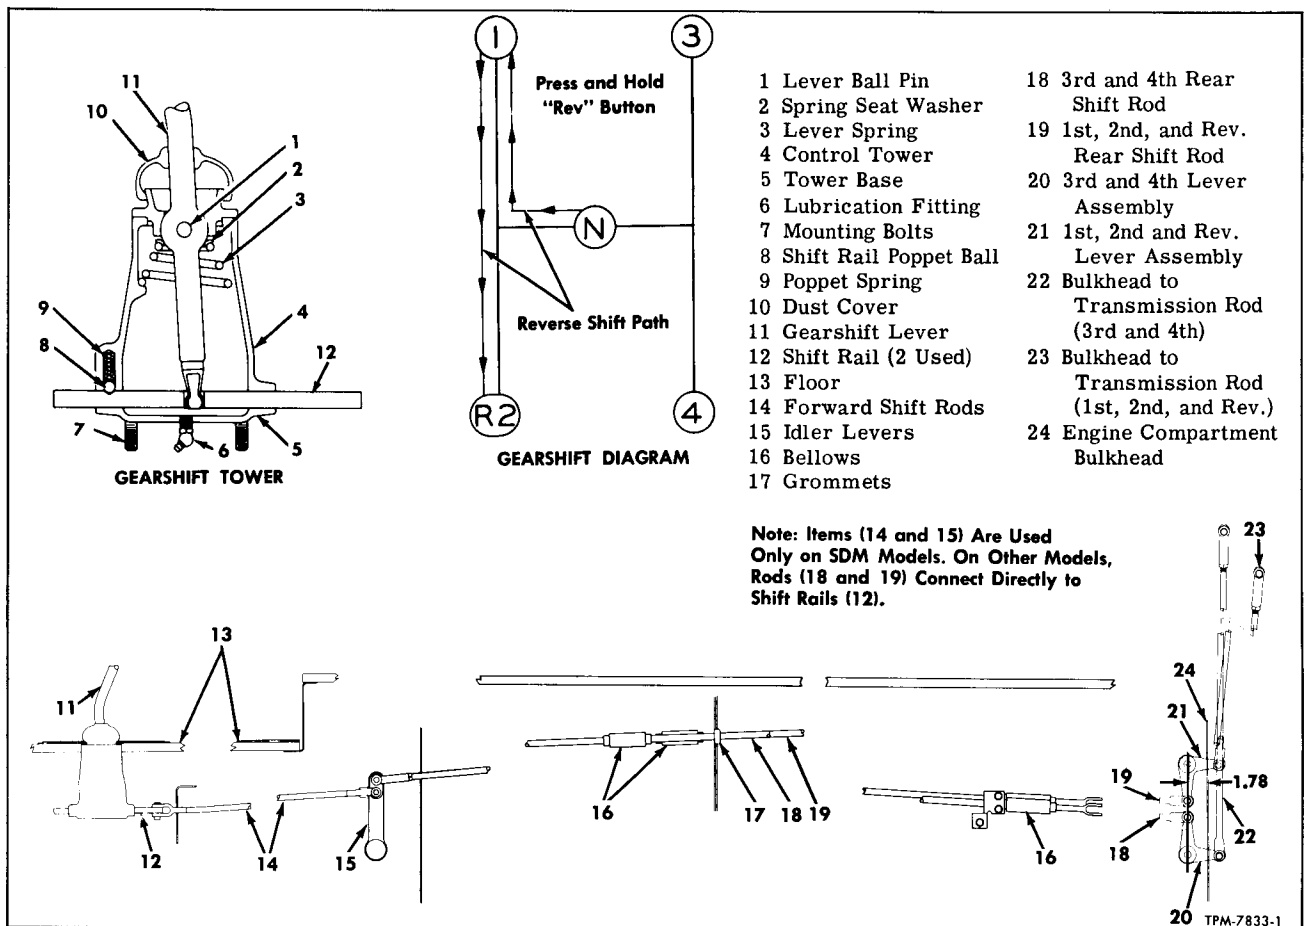
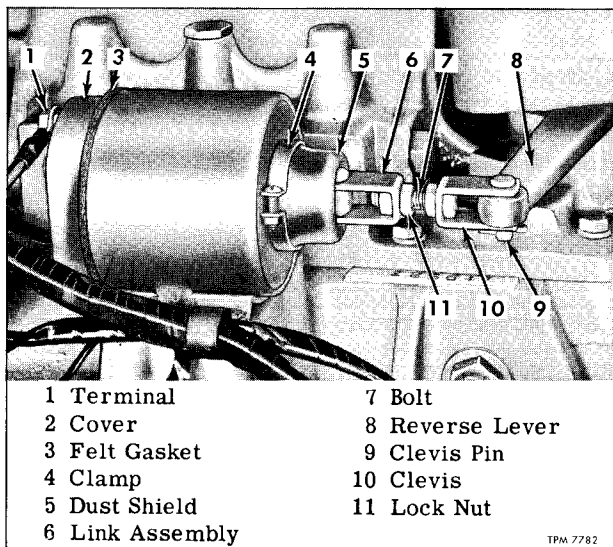
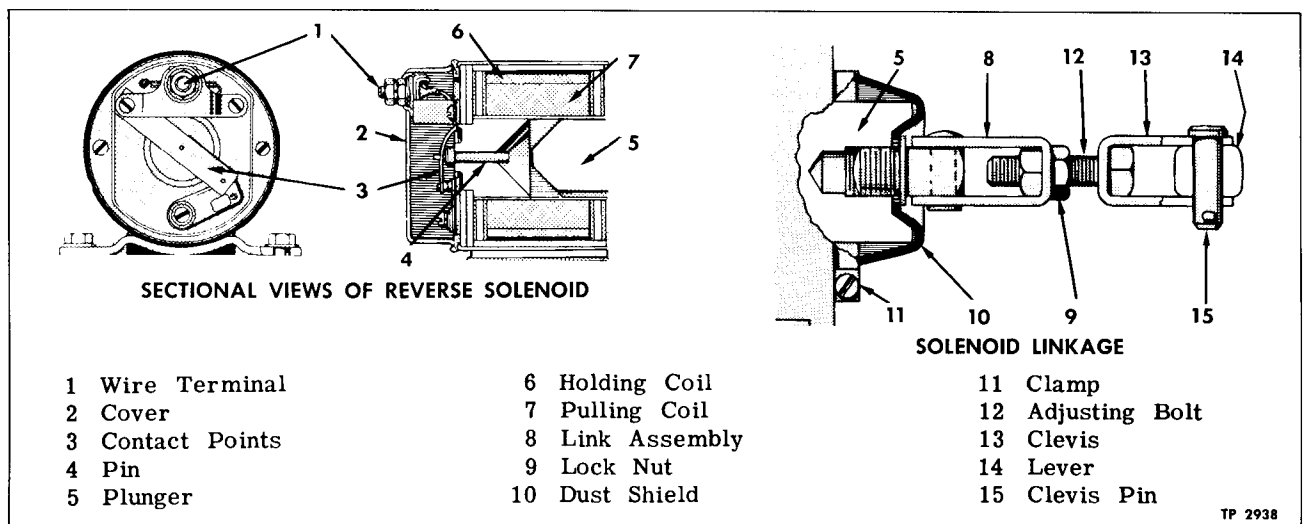

Figure 4—Transmission Controls
Figure 6—Typical Reverse Solenoid and Linkage
Figure 7—Reverse Solenoid Adjustment
The transmission gears are shifted manually through use of gearshift lever located at right of driver's seat and connected to levers on transmission by rods and bell cranks (figs. 4 and 5).
Reverse solenoid and lever (fig. 6) move shaft (4) endwise to engage inner finger (12) with notch in fork (13) when shifting into reverse. Spring (11)
Selection of transmission gear is made by conventional shifting lever. Gearshift lever is mounted in a tower attached under floor near driver's seat. Two shift rails in base of gearshift lever tower are connected with control rods which are shown in figure 4. Shift rods are connected to bellcrank levers at engine compartment bulkhead. Shift rods have adjustable clevises at forward ends. Two rods in engine compartment connect bellcrank
Reverse solenoid is mounted on transmission and connected to lever (fig. 6) which moves 1st, 2nd, and reverse shaft endwise. Solenoid is energized by a button type switch at panel at left of driver which operates relay located in electrical compartment at R.H. rear corner of coach. Relay completes circuit to the reverse solenoid. When solenoid is energized, solenoid plunger which is linked to reverse lever (8, fig. 6) pulls on reverse lever and forces shift finger shaft endwise to disengage inner finger from notch in 1st and 2nd fork and engage finger with reverse shift fork. This action can take place only when gearshift lever is in the 1st speed position. See figure 4 for shift diagram.
Key numbers in text refer to figure 4, except as otherwise indicated.
2. With clevises at ends of shift rods (18 and 19) connected at both ends, observe position of bellcrank lever assemblies (20 and 21) at engine compartment bulkhead. Center of clevis pins must be in line with each other and centered on a line through the two shaft assemblies. This line is 1.78 inches from bulkhead as shown in figure 4. If necessary, adjust clevises at front end of rods (18 and 19) to bring about the condition described above. Tighten lock nuts at clevises when adjustment is completed.
Gearshift lever, mounted in control tower below floor at right of driver, can be removed and disassembled as described below. Mounting bolts and clevis pins are accessible below vehicle. Refer to figure 4 for layout of control rods.
1. Assemble gearshift lever tower components referring to sectional view in figure 4 for construction. Mounting bolts are installed from upper side of tower and are threaded into base.
4. Try operating lever (8, fig. 6) while observing contact points (3, fig. 7). As lever pushes plunger (5, fig. 7) inward, plunger must contact pin (4, fig. 7) and open points when plunger reaches end of stroke. When current is supplied to solenoid both coils (6 and 7, fig. 7) are energized and cause magnetic pull on plunger; but when points open, the circuit through pulling coil (7) is broken and only the holding coil (6, fig. 7) remains energized. Damage to coils may occur if points do not open at end of plunger stroke.
5. If necessary to make an adjustment, refer to figure 6 and loosen lock nut (11), remove clevis pin (9) and turn clevis (10) while holding link assembly (6). Install clevis pin and tighten lock nut, then recheck action as directed in Step 4 above.